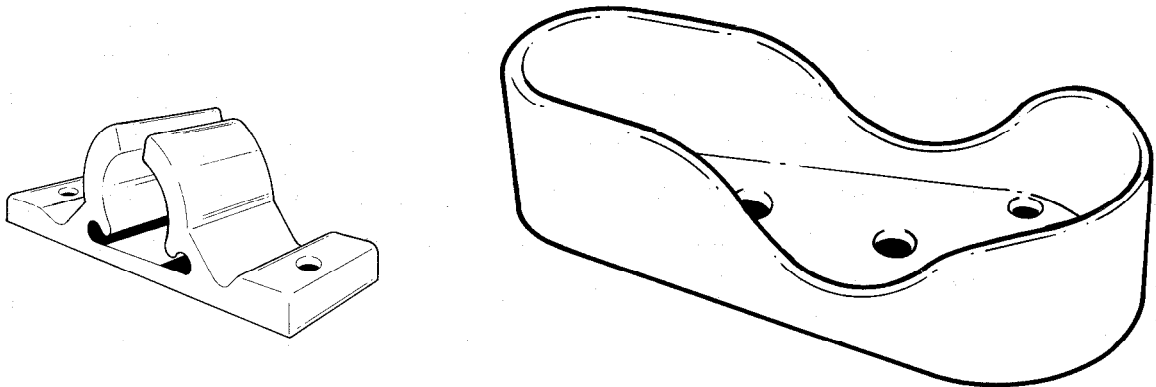

FIG 1 - AUSTSTWEYR RIFLE CLIP AND BUTT BOX
1. This instruction details the modification to the existing 'SLR' brackets, and the fitting of the new AUSTSTEYR Weapon clips and brackets (Fig 1).